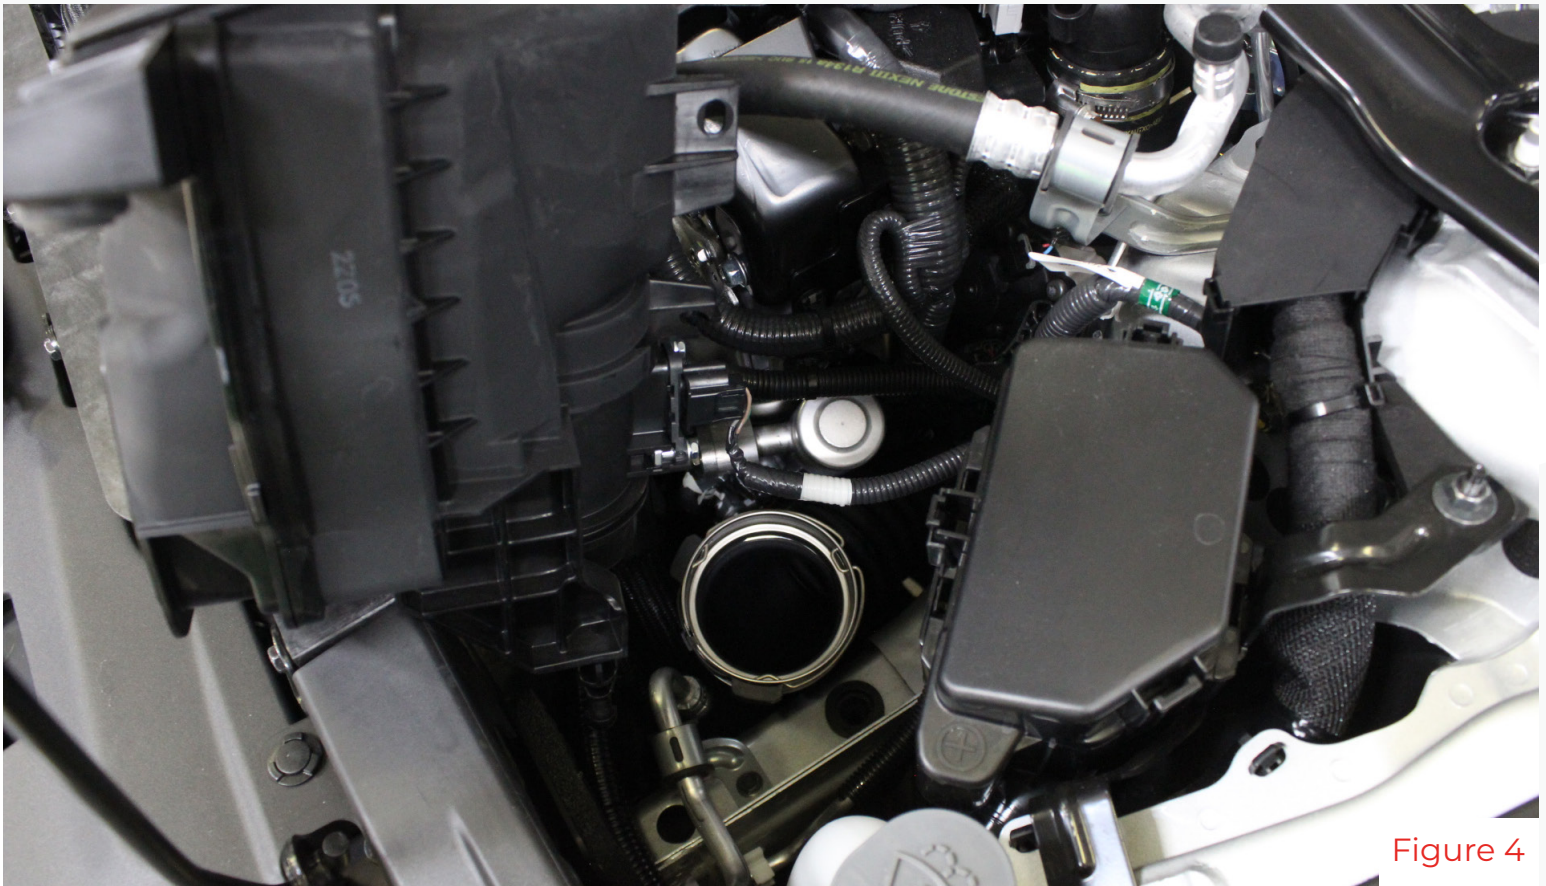

Figure 4
3. Lift the airbox out and disconnect the maf sensor(fig 4). Set the airbox aside for now.